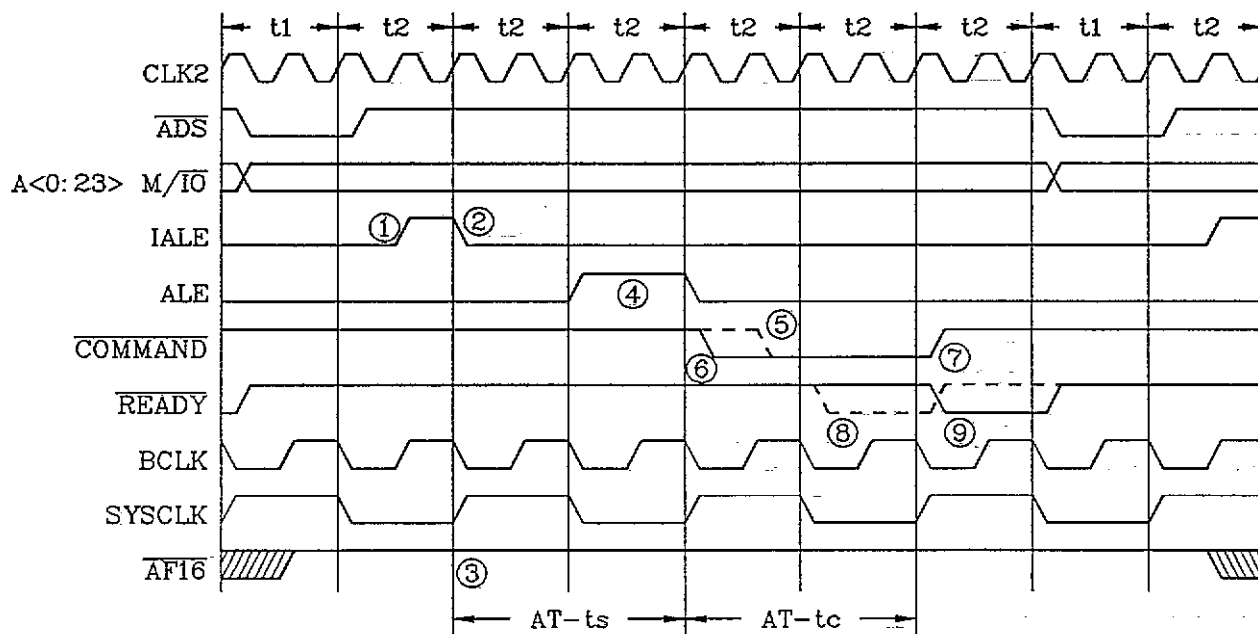

Figure 1.2 Normal Mode AT Bus Cycle
Figure 1.2 shows a normal mode AT bus cycle. The cycle starts with IALE being generated at references (1) and (2). AF16* is sampled in the high state at reference (3). Control is then transferred to the AT bus state machine. ALE is generated (4) and is followed by the command (6) after a programmed number of command delays (5). After the wait states occur, the command goes inactive (7) and READY* is generated (8).
On the AT bus, certain peripherals require an extended data hold time after the command goes inactive. The 82C811 provides an option to delay READY* by one processor cycle, as shown in Figure 1.2, reference (9). This extends the data hold time on write cycles by two PROCCLK cycles.